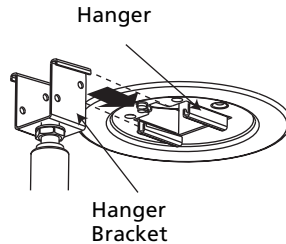
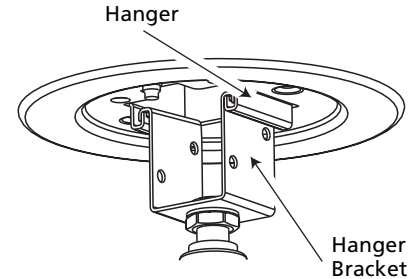

Figure 8c - Aligning the Hanger Bracket with the Hanger
Figure 8d - Hanger Bracket fully inserted into the Hanger
4. Align the Hanger Bracket with the Hanger as shown in Figure 8c. Slide the Hanger Bracket into the Hanger until it is fully inserted as shown in Figure 8d.